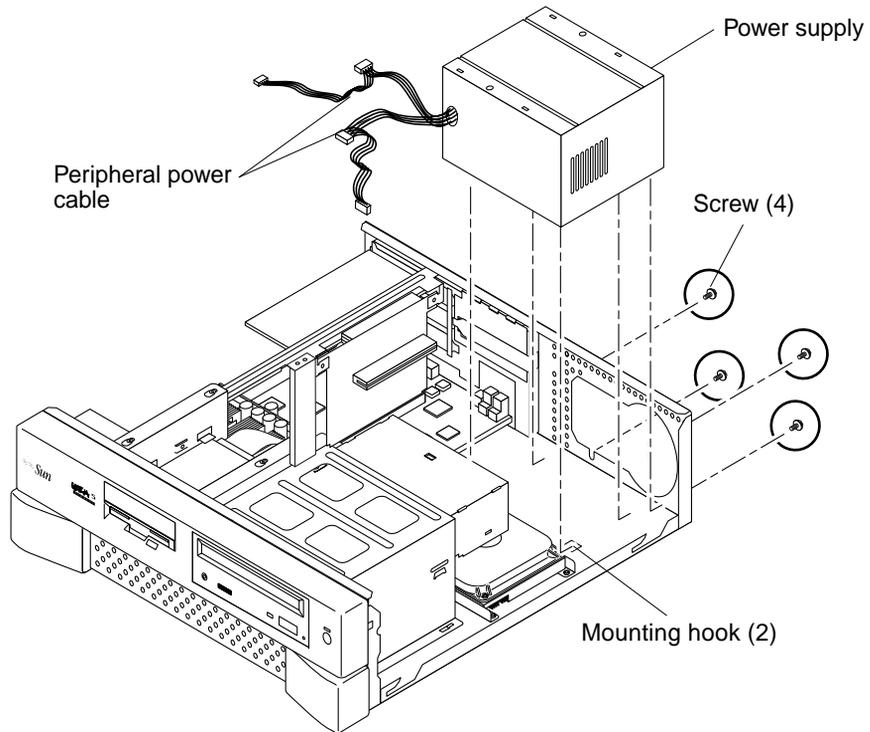

FIGURE 8-1 Removing and Replacing the Power Supply (Ultra 5)
5. Remove the power supply from the Ultra 5 as follows (FIGURE 8-1):
2. **Replace the power supply into the Ultra 5 as follows (FIGURE 8-1):**